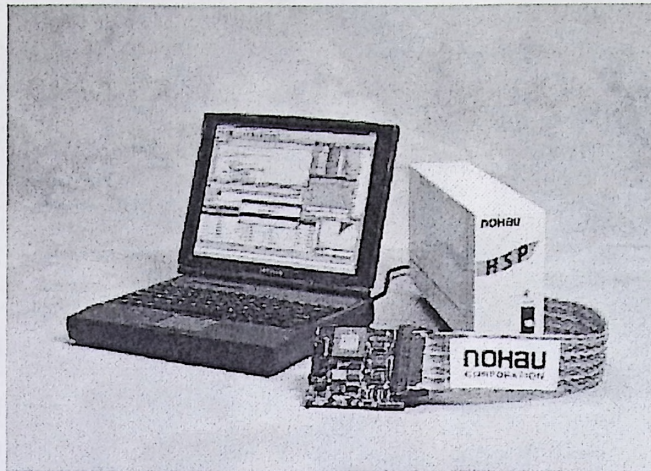

Figure 1. HSP Box Connected to the Emulator, Trace, and Pod Board
- Five foot ribbon cable—connects the emulator and pod (see Figure 1).